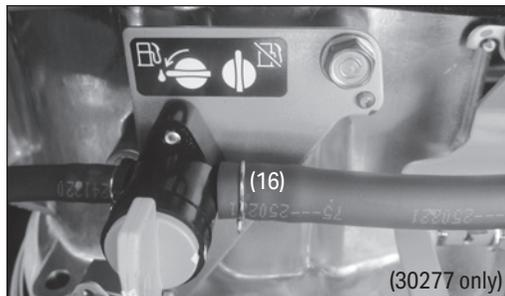

Fig.7
- Fit the bottom section of the handle (9) to the bag (10) and secure the top of the handle to the bag with the screw supplied.
- Lift up the rear discharge cover (11) and hook the bag onto the rear bar.
6.6 Fuelling the Lawnmower (Fig.7 - Fig.8)